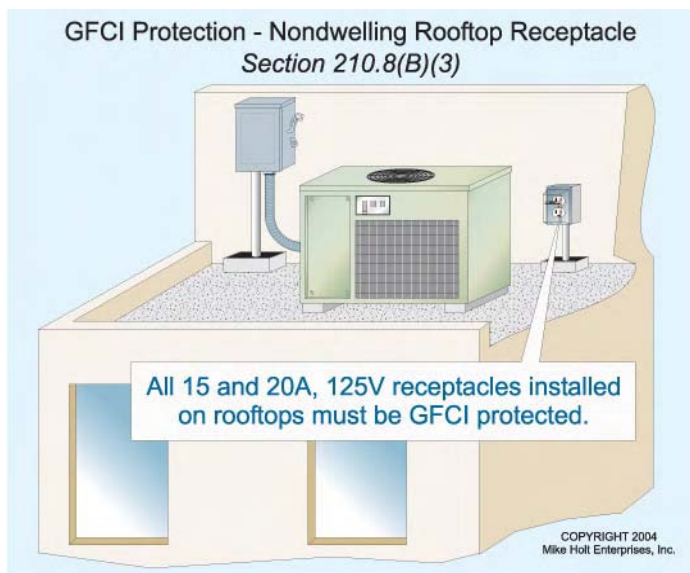

Figure 210-26
(3) Rooftops. All 15 and 20A, 125V receptacles installed on rooftops must be GFCI protected. **Figure 210-26**